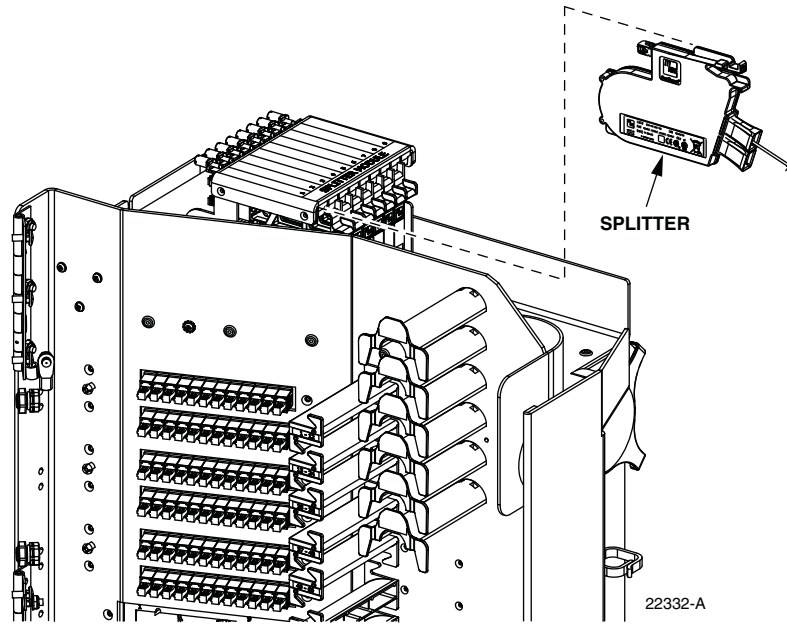

Figure 61. Splitter Installation
8. Insert the splitter into the mounting slot as shown in Figure 61.